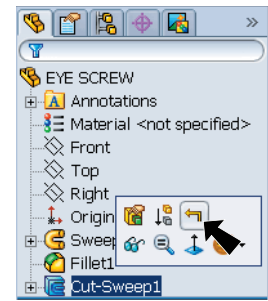

Fig. 33
Step 2. Roll the rollback bar to above the Cut-Sweep. To rollback Cut-Sweep, click Cut-Sweep in the Feature Manager and click **Rollback**  from the Content toolbar, **Fig. 33**.